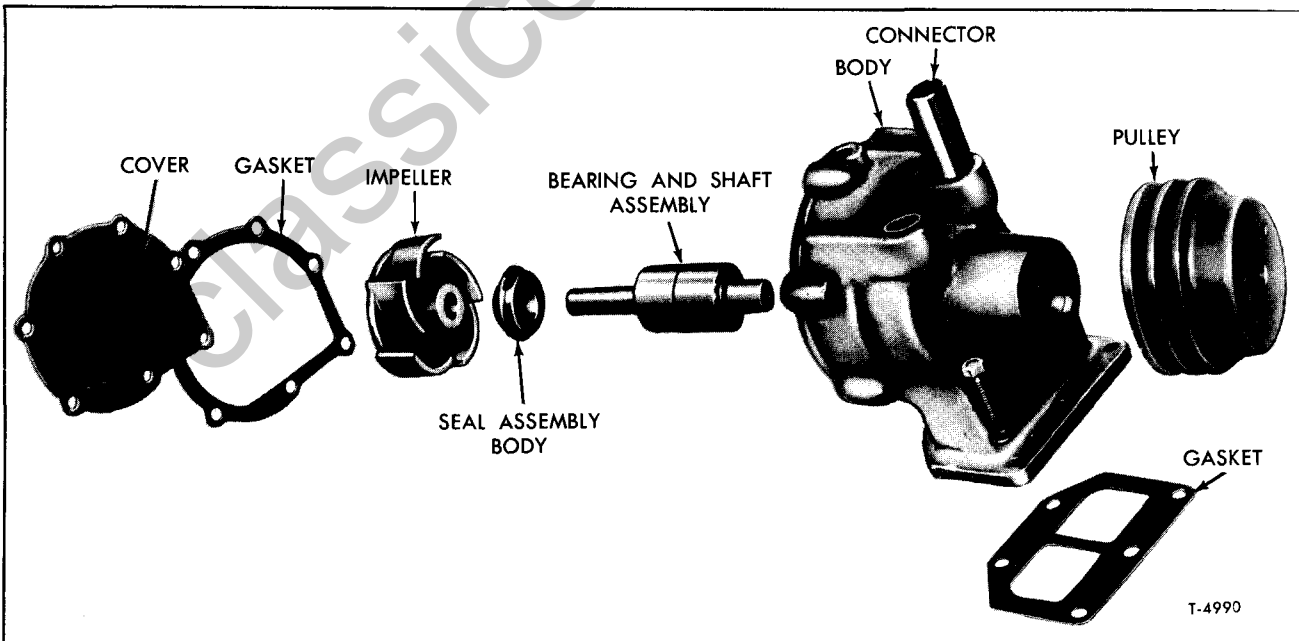

Figure 29—Water Pump (6V-53 Engine)
1. Using installer (J-1930), apply pressure to the outer race of the bearing, as shown in figure 29. Press the shaft and bearing assembly into the pump body until the outer race of the bearing is flush with the outer face of the body.